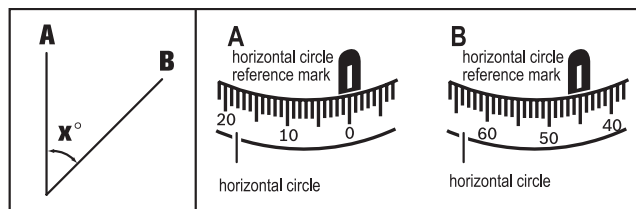

fig.7
1. Shoot the instrument toward A, rotate the horizontal circle 2 with "0" point toward the reference mark 3. (see fig.7 )
2. Shoot the instrument toward B, read off the angle value at the reference mark 3 of horizontal circle. (see fig.7)